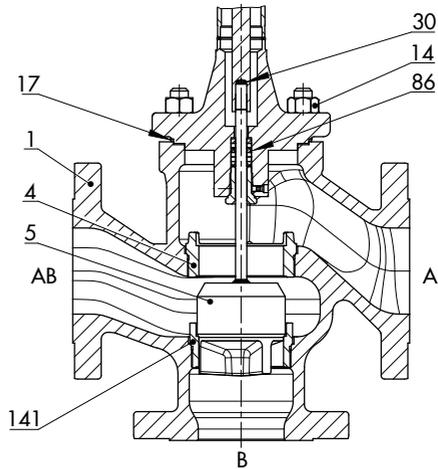

Fig. 3-2: Type 3246 Three-way Valve with flanges
- Three-way valve, Class 150 and 300/PN 16 and 40 (see Fig. 3-2)
In mixing valves, the process media to be mixed enter at valve ports A and B. The combined flow exits the valve at port AB. The flow rate from ports A or B to AB depends on the cross-sectional area of flow between the seats and plugs. Fig. 3-2 shows a mixing valve.